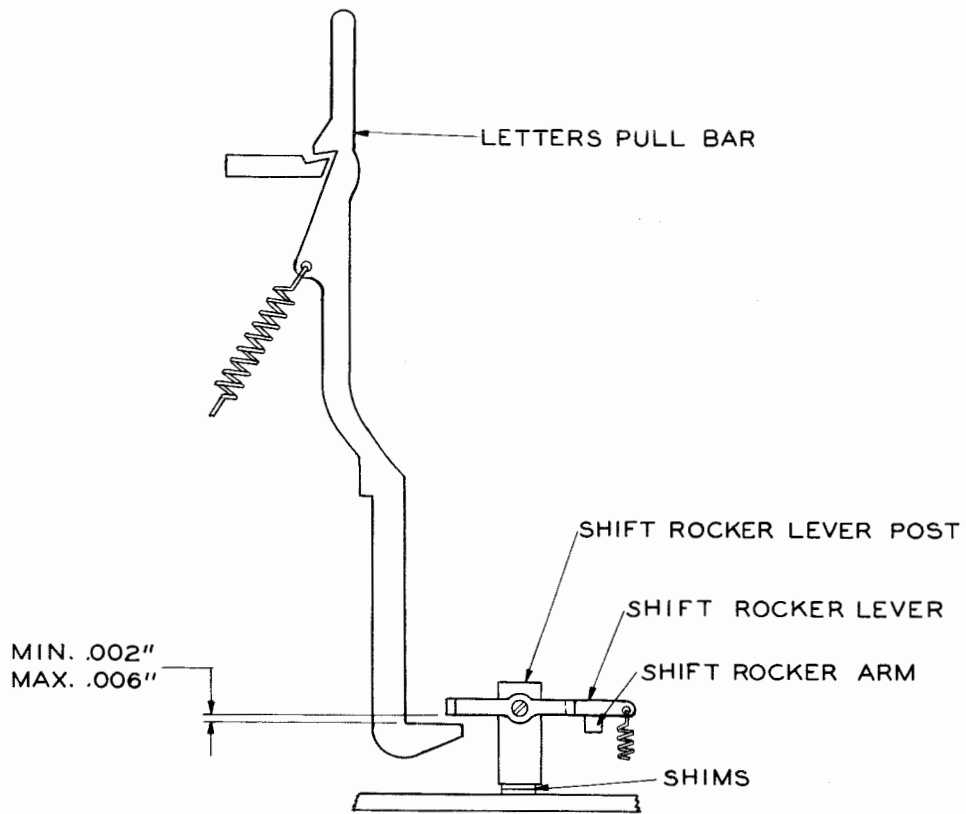

Figure 15
2.27 Shift-rocker-lever Post shall be located so that its front surface is approximately parallel to the front edge of the baseplate (gauge by eye), and on typing units equipped with a non-adjustable shift rocker, so that the shift-rocker lever clears the LTRS pullbar toe by minimum 0.002 inch, maximum 0.006 inch when the carriage is in the FIGS position and the LTRS pullbar is just selected and about to move upward. (See Figure 15.) To obtain clearance, raise or lower the shift-rocker-lever post by means of shims TP8896 (0.004 inch) under the post.